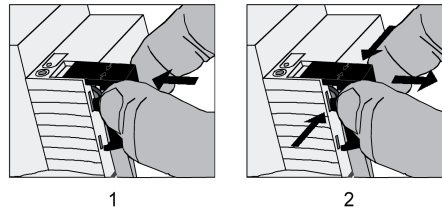

Figure 5: Installing / removing the protective cap for the bus connection
- To install the cap: slide the cap over the bus terminal until you feel it engage (Figure 5).
- To remove the cap: Remove the cap by pressing the sides slightly and by pulling it out to the front (Figure 5).